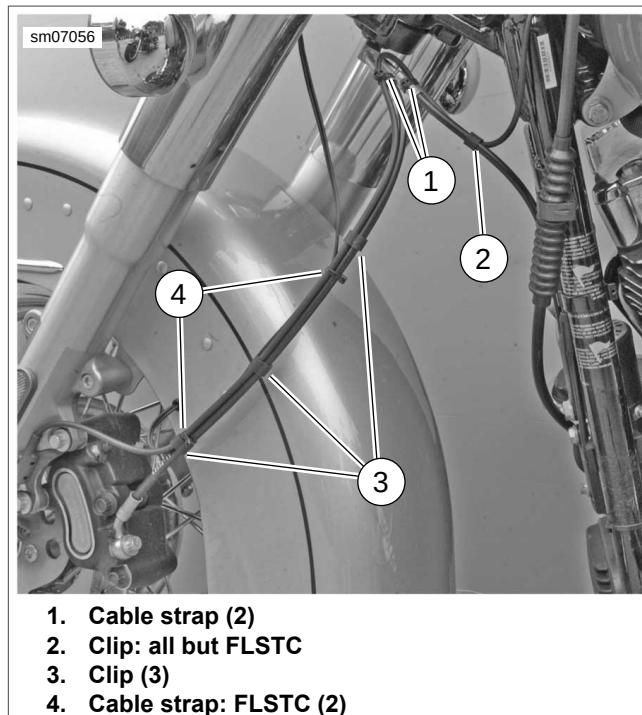

Figure C-16. WSS Cable Rounting
1. See Figure C-16. Disconnect clips (3) from brake line.
2. Remove cable straps (1) from brake line.
3. **All but FLSTC:** Remove clip (2).
4. **FLSTC:** Remove cable straps (4).
4. See Figure C-16. Connect clips (3) securing WSS wire to brake line.
5. Install **new** cable straps (1) securing WSS wire to crimped ends on 90 degree fitting.
6. **All but FLSTC:** install clip (2).
7. **FLSTC:** Install **new** cable straps (4).